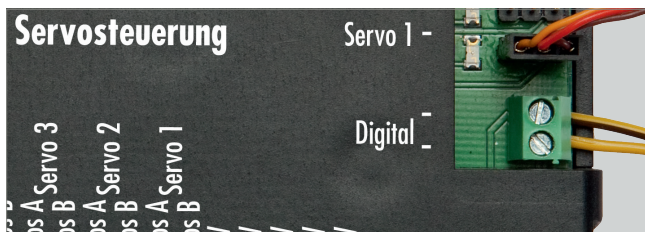

Fig. 5: Connecting a digital control unit
- ▶ If you want to **preset** servos via a digital control unit, connect the »Digital« port of the Servo Control to a programming track port of the digital control unit, see Fig. 5.
- ▶ If you want to **position** servos via a digital control unit, connect the »Digital« port of the Servo Control to a track output of a digital control unit, see Fig. 5.